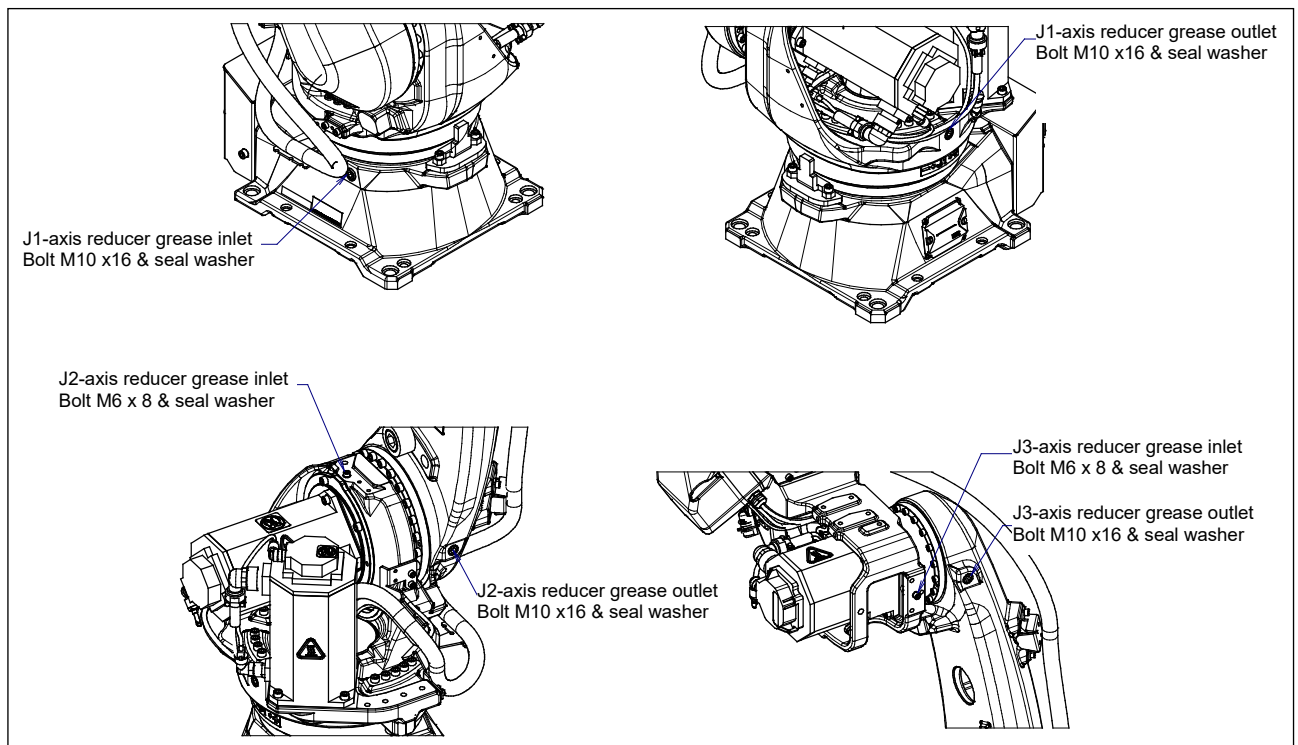

Fig. 7.3.2.1 (a) Greasing point of J1/J2/J3-axis reducer
- 3 Remove the bolt and the seal washer from grease outlet. (Fig.7.3.2.1 (a))